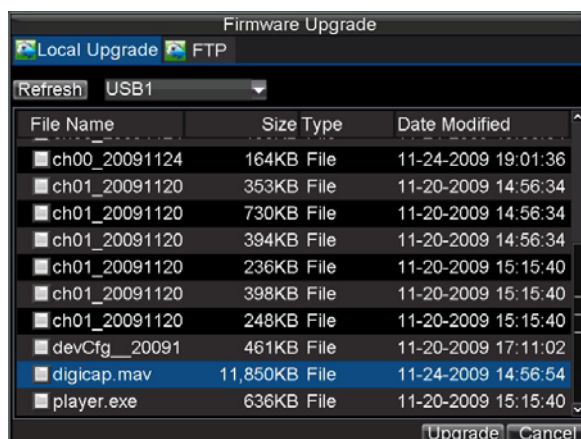

Figure 11. Firmware Update Menu
- Enter the Firmware Update menu, shown in Figure 11 by clicking Menu > Maintenance > Upgrade.